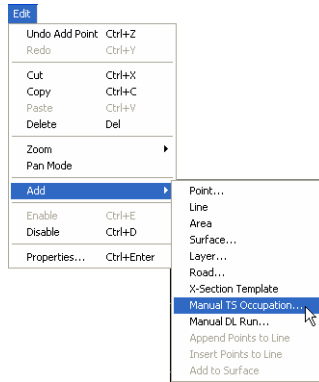

Figure 5-99. Adding a TS Occupation Manually
- Click **File ▶ Add ▶ Manual TS Occupation** (Figure 5-99).